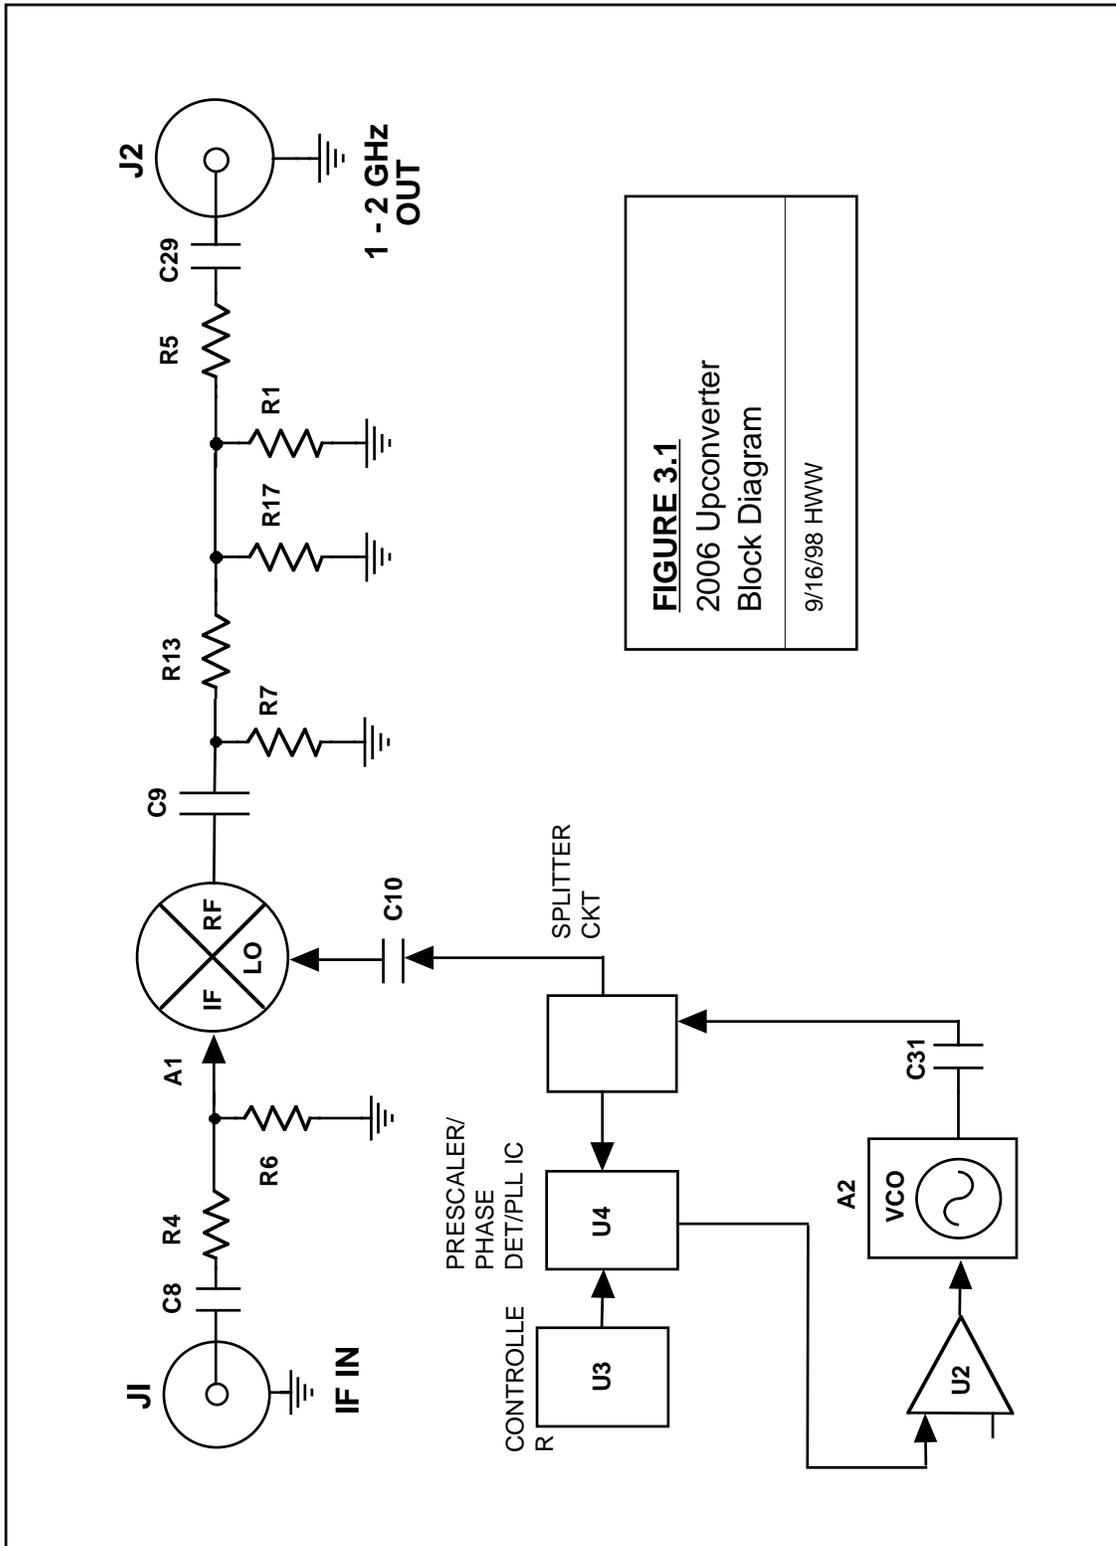

FIGURE 3.1
3.1 Block Diagram Description - 2006-02 (Figure 3.1) - The 70 or 140 MHz input (J1) signal first goes to capacitor C8 and then to the 75 to 50 ohm matching attenuator, R4, R6. The signal then goes to mixer A1 which receives the LO generated by VCO A2 and provides the LO \pm IF and LO unfiltered output. This signal next goes through 6 dB attenuator R7, R13, R17 and then to the 50 to 75 ohm matching attenuator R1, R5. Commands for the phase lock loop IC, U4, are provided serially from microcontroller U3 which determines the frequency of the LO. Crystal oscillator A3 provides the 25 MHz reference frequency for the synthesizer U4. Q1 provides low noise regulated voltages for PLL IC U4 and loop amplifier U2.